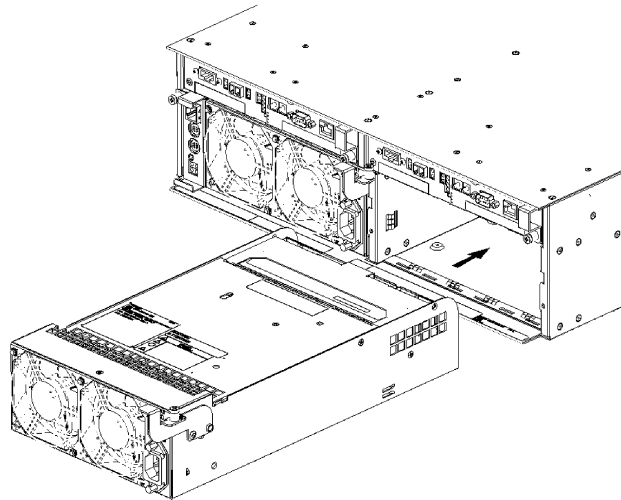

Figure 3-26. Installing the Replacement Power Supply.
13. Ensure the power supply ejector is in the open position and insert the replacement power supply into the slot until it is firmly seated in the chassis. See Figure 3-26.